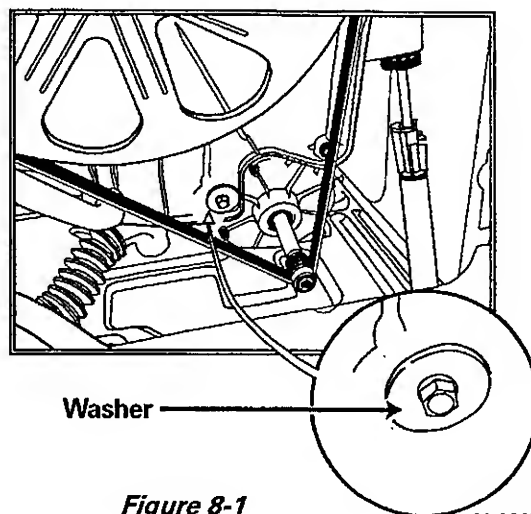

Figure 8-1
The drive belt has six (6) ribs which mate with the face of the motor pulley. The belt encircles the motor pulley and also the drive pulley of the spinner (*Figure 8-1*).